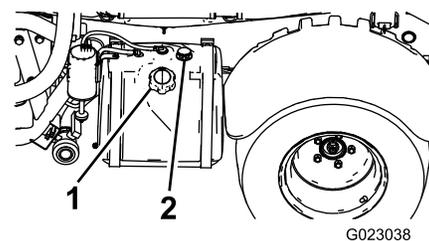

Figure 12
2. Clean the area around the fuel-tank cap (Figure 12).